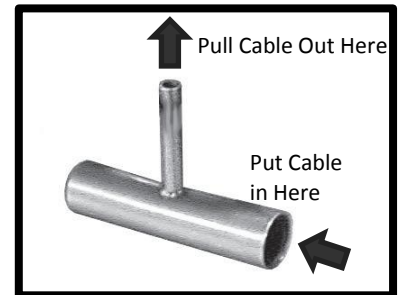

Figure 64: Placing Cable through Handle
1. Pass the empty end of the cable into either side hole on the cable handle and out the center hole (Figure 64).